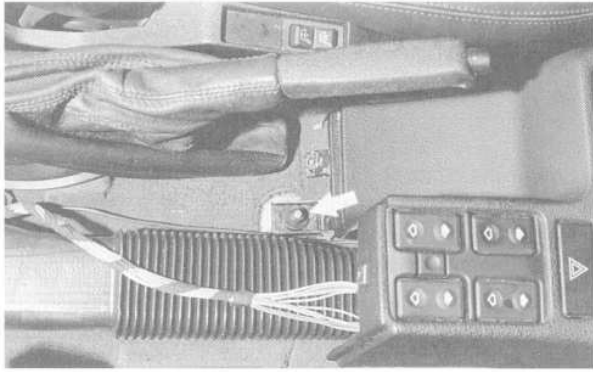

Fig. 3. Center console mounting bolt (arrow).
6. Remove center console mounting bolt below parking lever. See Fig. 3.